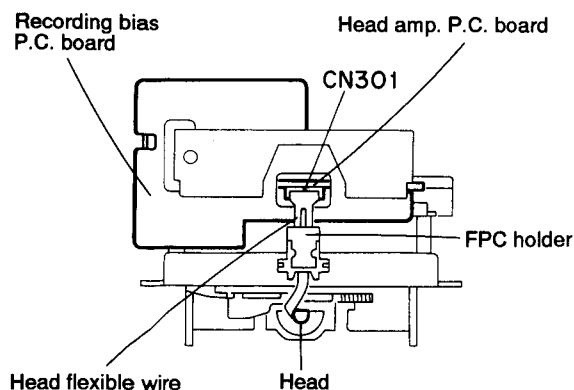

Fig. 5-13
■ Removing the head amp. P.C. board (See Figs. 5-13 and 5-14)
2. After removing the FPC holder, disconnect the head flexible wire from the connector CN301 on head amp. P.C. board (See Fig. 5-13).